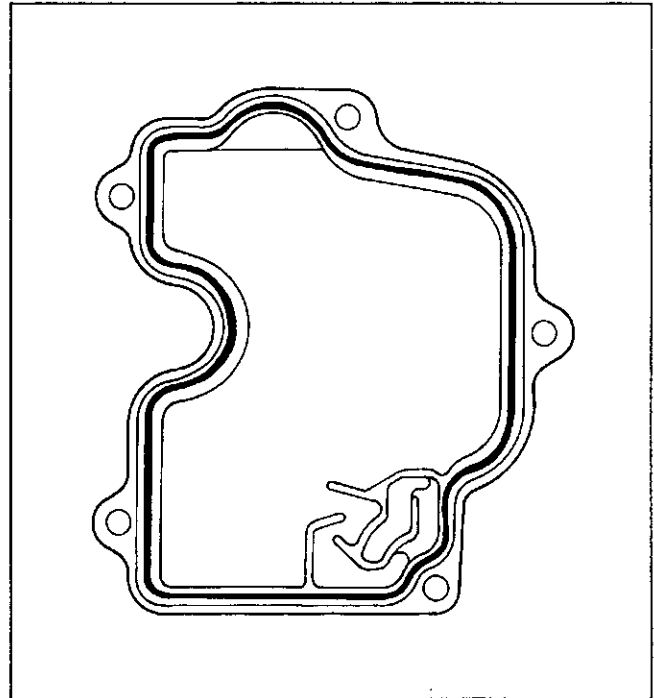

Figure 11-34. Valve Cover Sealant Pattern.
2. Apply a 1/16" bead of sealant to the cylinder head as shown in Figure 11-34.